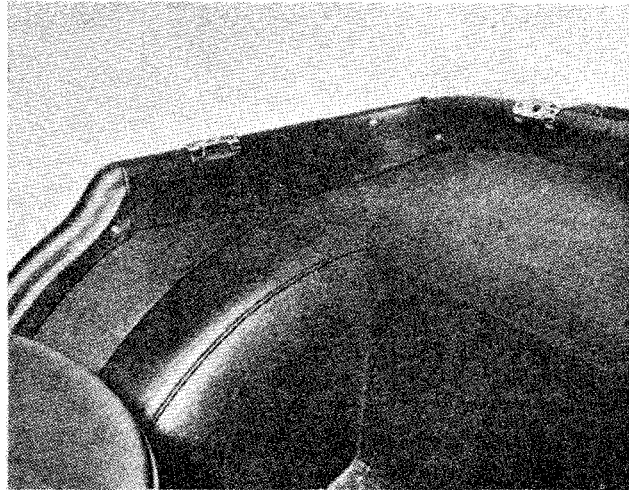

Fig. 6 Protection Plates in position on R.H. and Centre Cappings.
- (n) Select the three narrow protection caps and position these on the rear cappings, aligning the apertures with the threaded centres of the bridge pieces: the $\frac{3}{8}$ " dia. holes may need elongating to permit this adjustment. Drill the cappings through the protection caps. Secure with two screws each. The two larger caps are fitted similarly to the side elbow rails. (Fig. 6).